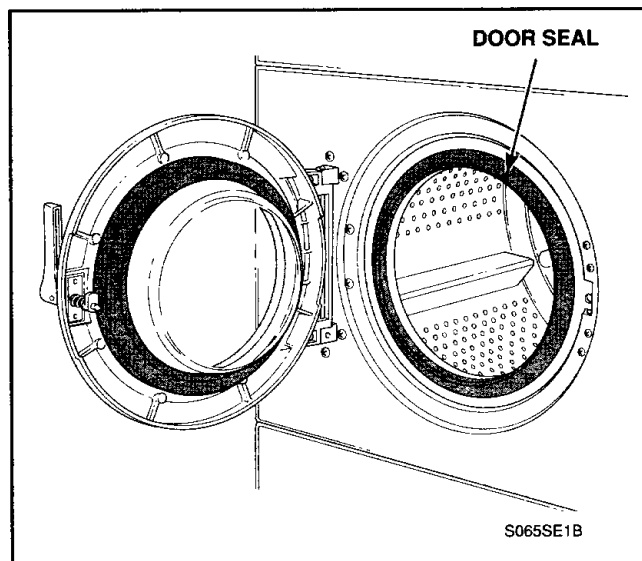

Figure 19
- o. Disengage door seal from front panel flange, *Figure 19.*
- o. Disengage door seal from front panel flange, *Figure 19*.